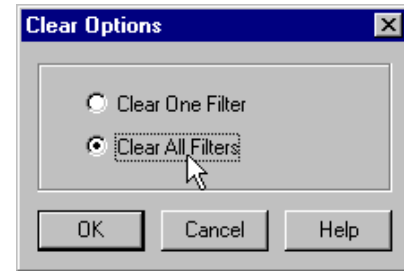

Figure 44 – Clear Options Dialog
Click this button to return filter settings to their defaults. It opens the Clear Options dialog (Figure 44 on page 60), which provides you with the option to clear all filter settings, or to clear only selected filter settings.
2. The Clear Options dialog appears, as in figure 44.